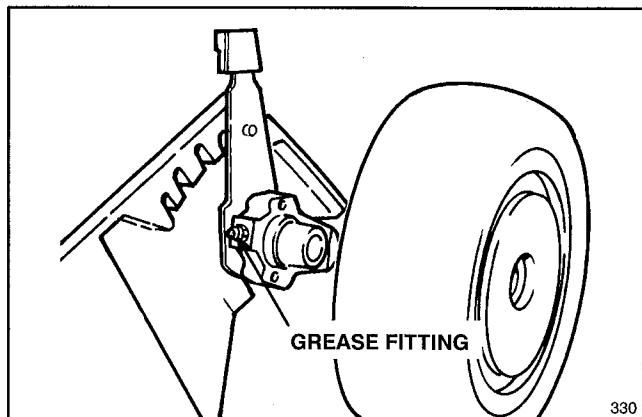

Figure 17
2. **GREASE FRONT AXLE PIVOTS** (Fig. 17) (self-propelled model only)—Adjust height-of-cut to 3-inch setting and loosen wheel bolt to get additional clearance around grease fitting. Wipe grease fittings with clean rag. Install grease gun onto fitting and gently apply 2 or 3 pumps of #2 Multi-Purpose Lithium Base Grease.